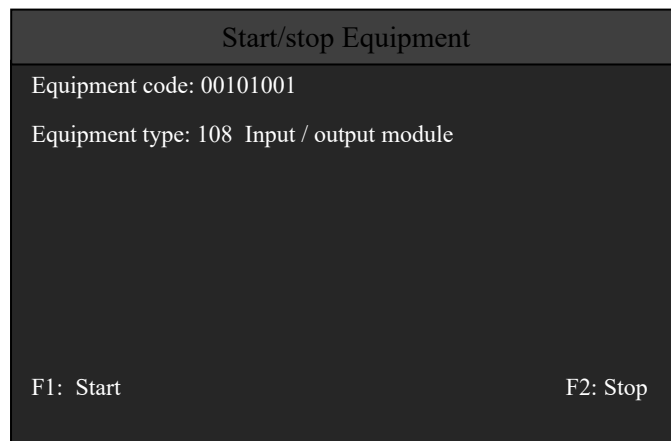

Fig. 3-21 Start/stop equipment
In user setup interface, press number key 6 or move the cursor to 6, and press "√" key to go into start/stop equipment interface. In order to facilitate engineering debugging, the customer can start/stop the equipment according to equipment code, as shown in Fig. 3-21. Press number key to input code of the equipment to be simulated, and then press "F1 key" to start the equipment to be simulated, press "F2 key" to stop the equipment to be simulated. Simulation equipment will link related equipment in automatic linkage mode. Please operate with caution.